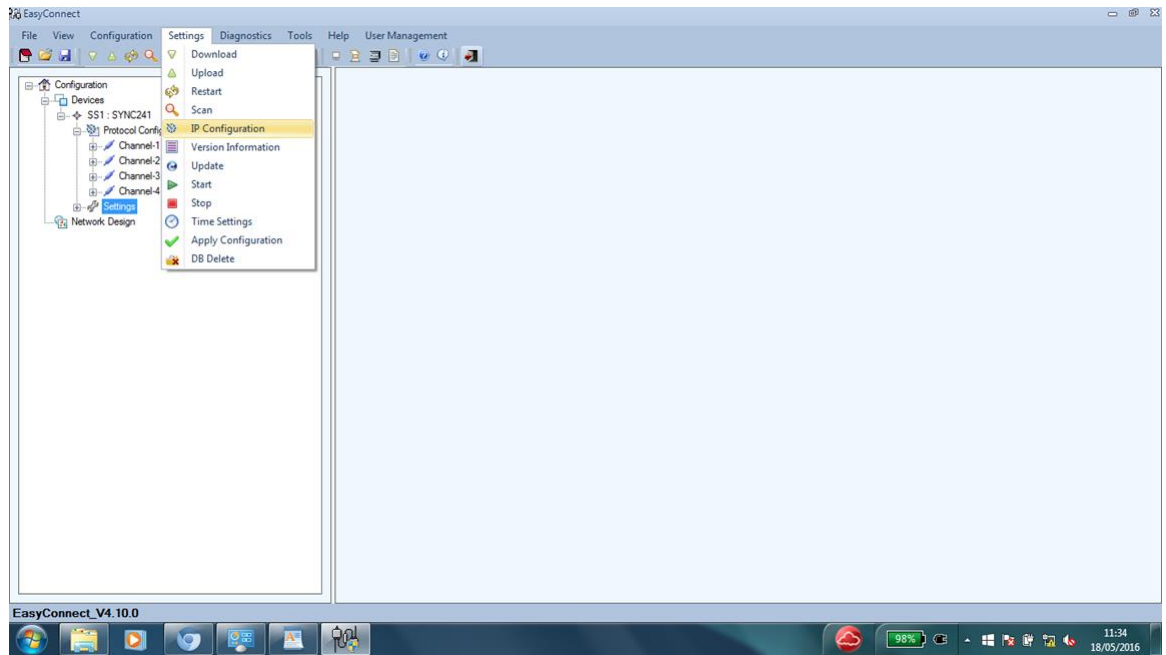

Figure E-15: IP Configuration
5. To change the IP address from the default value, select **Settings > IP Configuration** as shown in Figure E-15.